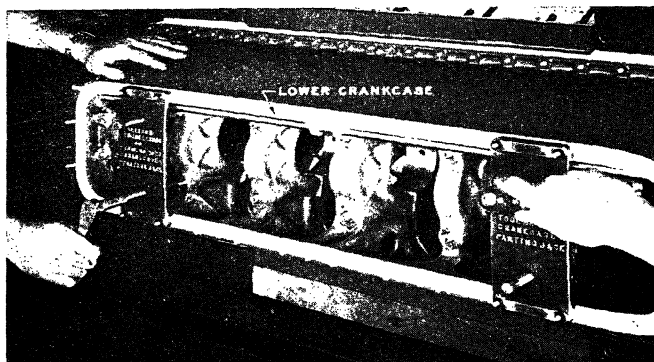

FIG. 11.—Separating the halves of the crankcase with special parting jack.
**Crankcase.**—The crankcase is made in two parts. Remove the cylinder-block bearing plates from the upper crankcase. Each is held by two flat-headed screws. Turn the engine in a horizontal position, as in Fig. 11, and remove the cotter pins and nuts. The parting jacks shown are bolted to the lower crankcase studs. Be sure the jackscrews are clear of the main bearing. Tightening the jackscrews evenly separates the halves of the crankcase.